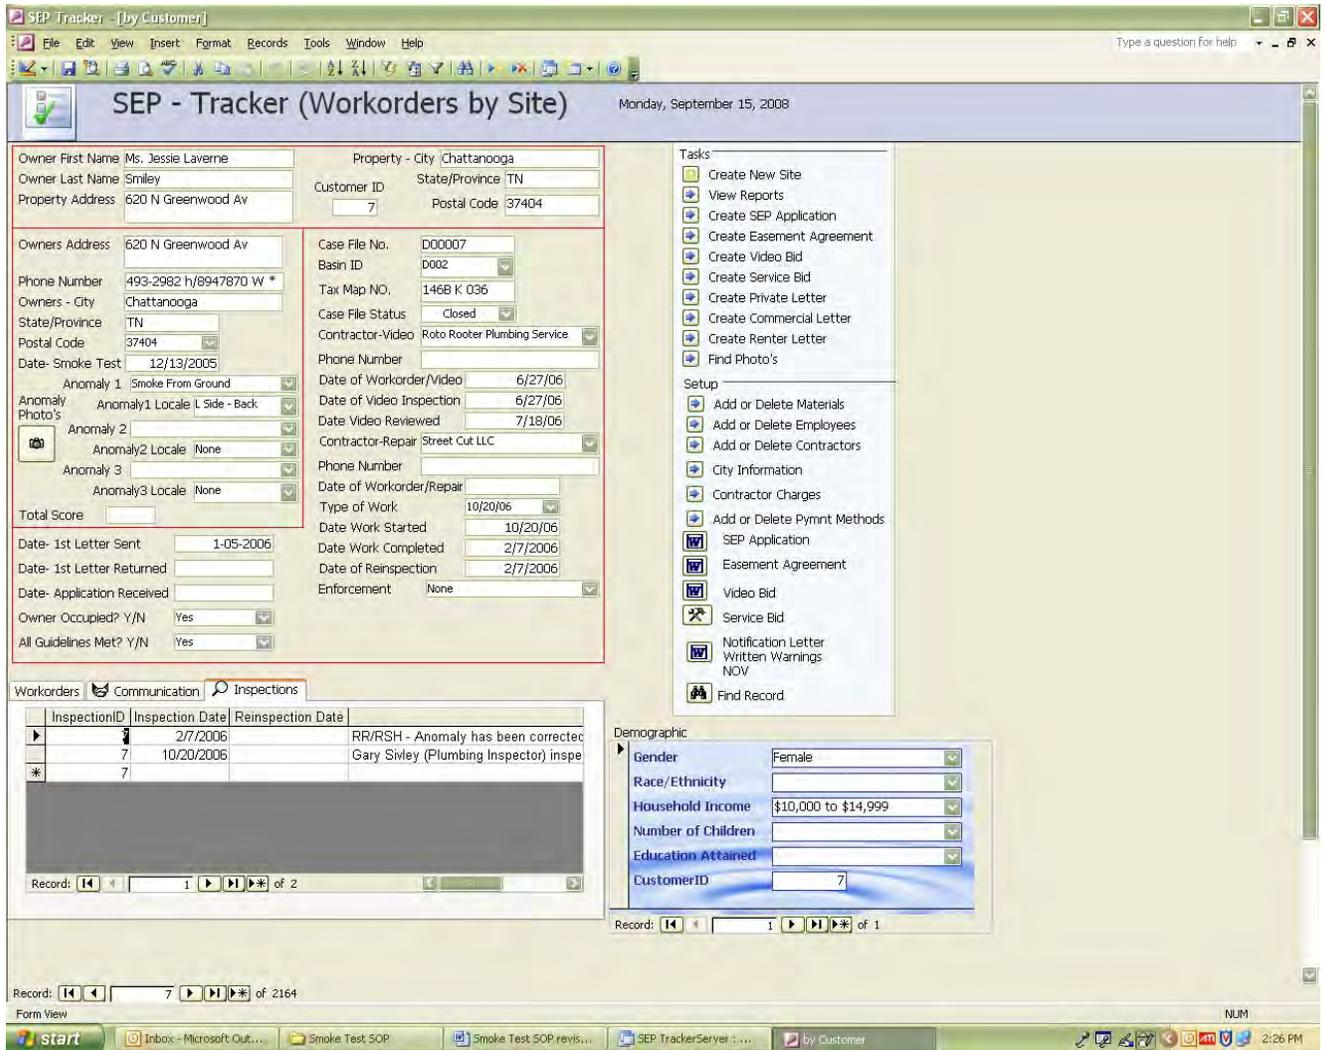

Figure 3: SEP – Tracker database
Smoke testing data is held in a Microsoft Access database entitled “SEP – Tracker” (figure 3), GIS, and on a spreadsheet. For proper QA/QC, one (1) team member shall be designated to update all three after a smoke test. When all teams have labeled and placed the photos in the proper place, the original smoke test collection data sheets should be given to the designated person to double check all addresses and photos of properties then input the information into the database, GIS layer and the spreadsheet.